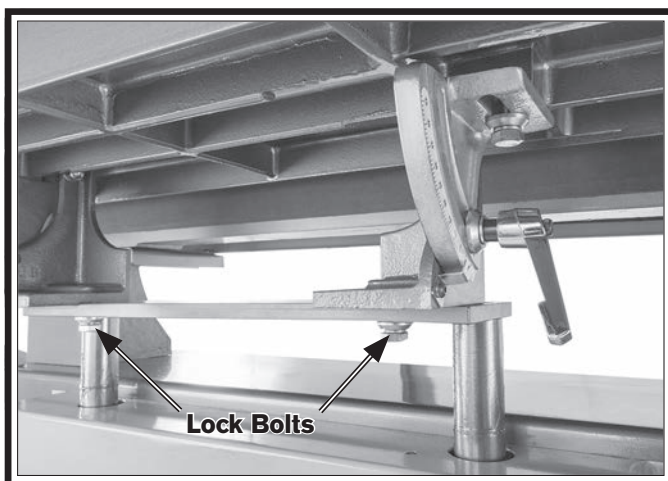

Figure 22. Location of main table lock bolts.
12. Loosen lock bolts shown in **Figure 22**, push table so there is $\frac{1}{16}$ " or less between table and sandpaper, then tighten bolts.